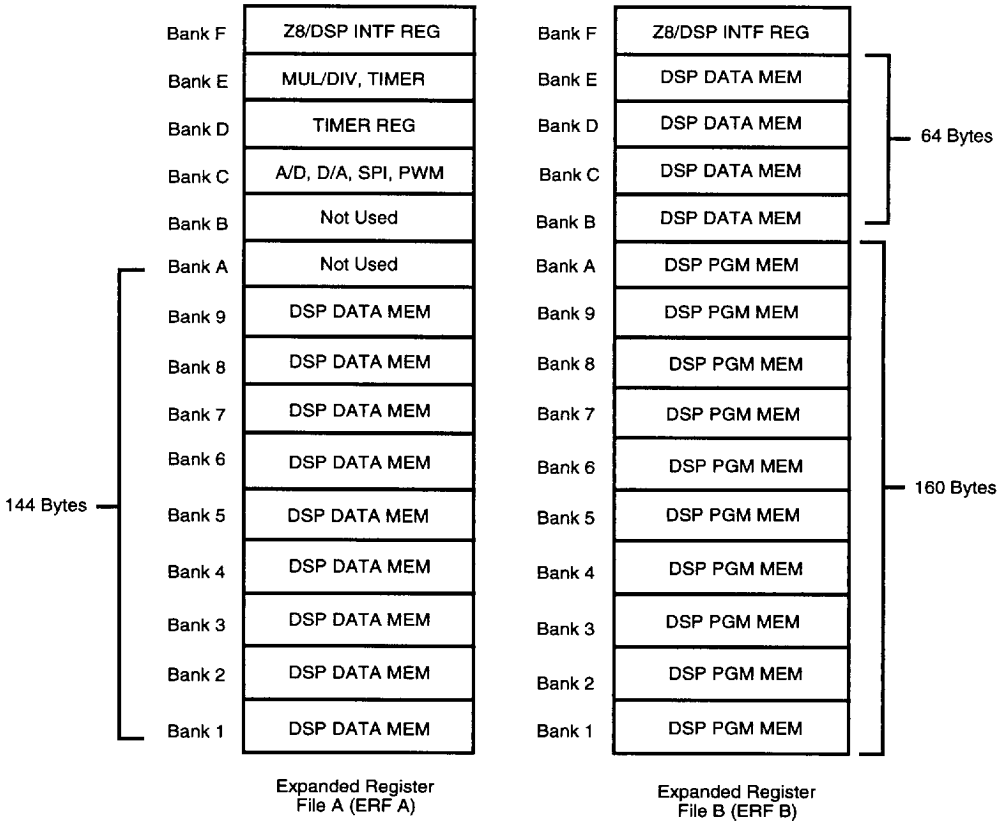

Figure 13. DSP Program and Data Memory
1. DSP Program Memory. The size of this memory is 512 bytes. This memory space is mapped into ERF-B, C, and D of the Z8. It occupies bank 1 through bank A in ERF-B, bank 1 through bank E in ERF-C, and bank 1 through bank 8 in ERF-D. (Figures 13 and 14).